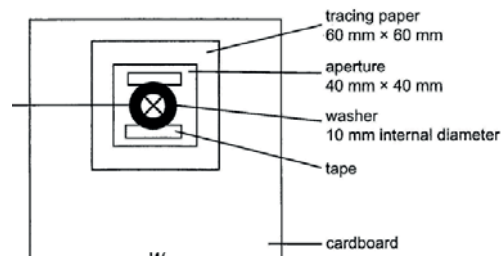

Fig. 3.1
- Constructed illuminated object (washer with internal diameter 10 ± 1 mm) and crosswires as used in 2011 A2 3 shown in **Fig 3.1**